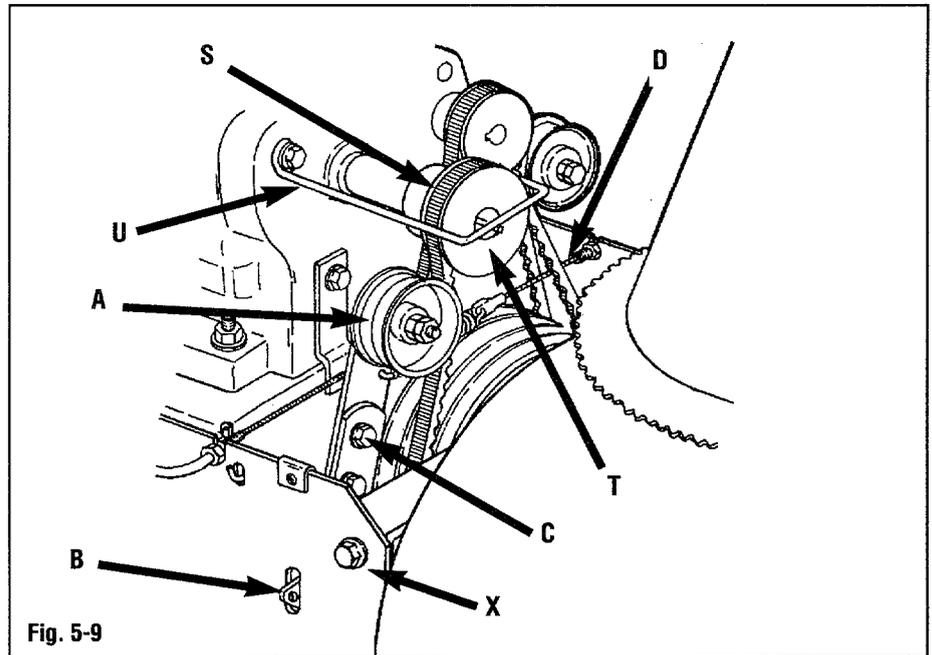
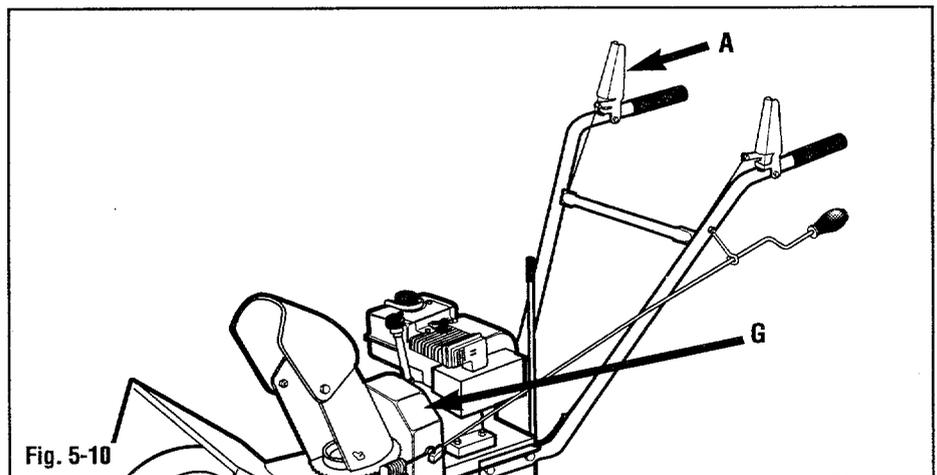
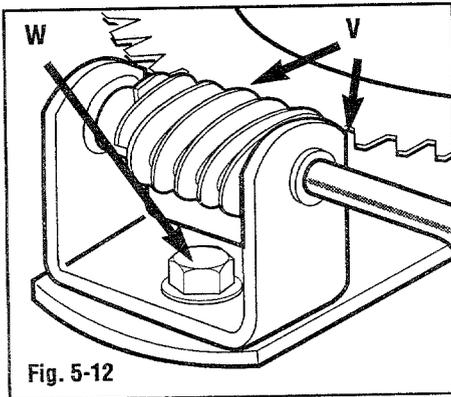

Fig. 5-9
Fig. 5-10
Fig. 5-12
2. Push idler arm pulley (A, Fig. 5-9) tight against belt (S). Insert a 5/32" (3mm) diameter pin into the hole in the brake arm (B, Fig. 5-9). The pin should be held against the outside of the frame.
4. Push the idler pulley (A, Fig. 5-9) inward until the auger belt (S) is tight.
5. Tighten bolts (C).
- a. Remove the pin from the brake arm (B).
- b. Push the idler pulley (J, Fig. 5-9) inward until the auger belt (S) is tight.
- c. Check the hole in the brake arm (B). The inside of the hole in the brake arm should be even with the outside edge of the frame.
7. When the auger drive control lever is released (A, Fig. 5-10), the cable (D, Fig. 5-9) should be under a slight tension. Adjust, if needed, as follows:
- b. Adjust the cable tension by rotating adjustment nut (P, Fig. 5-9) until cable (D, Fig. 5-9) is under a slight tension when the auger drive control lever (A, Fig. 5-10) is released.
- c. Hold adjustment nut (P, Fig. 5-9) and securely tighten locking nut (O) when the adjustment is complete.
8. Position the belt cover (G, Fig. 5-10) back on the unit and secure with the two bolts removed earlier.
3. Remove the four flange bolts (X, Fig. 5-9) securing the auger housing and the frame/handlebar assembly together.
4. Carefully separate the auger housing from the frame/handlebar assembly. . Remove the auger drive belt (S) from the drive pulley on the engine (T). Loosen any belt guides (U), if needed to remove belt (S) from pulley (T). Prop the handlebars on a solid, stable object, such as a workbench.
1. Remove the two bolts securing the belt cover (G, Fig. 5-10). Remove the belt cover (G).
3. Move the auger housing and the frame/handlebar assembly together and position the auger drive belt (S, Fig. 5-9) around the drive pulley on the engine (T).
4. Secure the auger housing and the frame/handlebar assembly together with the four flange bolts (X) removed earlier.
5. Adjust and tighten any belt guides (U) loosened earlier during step 4, "REMOVAL". Adjust the belt guides 1/16" (1mm) away from the auger drive belt (S) when the belt is tight.
6. Position the worm gear and support (V, Fig. 5-12) back in place on the unit. Secure the worm gear and support with bolt (W).
7. Rotate the chute control crank and check for binding. Reposition the worm gear and support (V) as needed for smooth operation.
9. Position the belt cover (G, Fig. 5-10) and secure with the two bolts removed earlier.